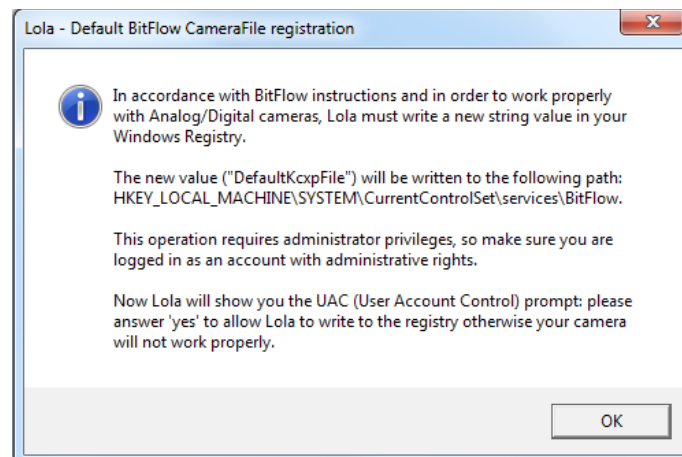

Figure 6: Lola Camera File registration window
*When using BitFlow grabbers, after you have finished configuring the available options and clicked the OK button, Lola will ask your permission to write a new value in your Windows Registry (Fig. 6). This is needed to automatically configure your analog or digital cameras. Please make sure you are logged in as an account with administrative rights.*